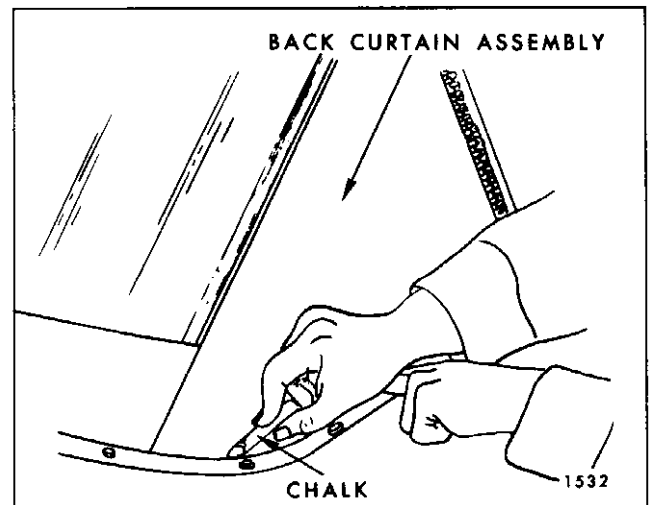

Fig. 13-21 — Marking Back Curtain
17. Where required, place reference chalk mark on outer surface of back curtain along pinchweld finishing molding. Re-adjust back curtain assembly as required (Fig. 13-21).